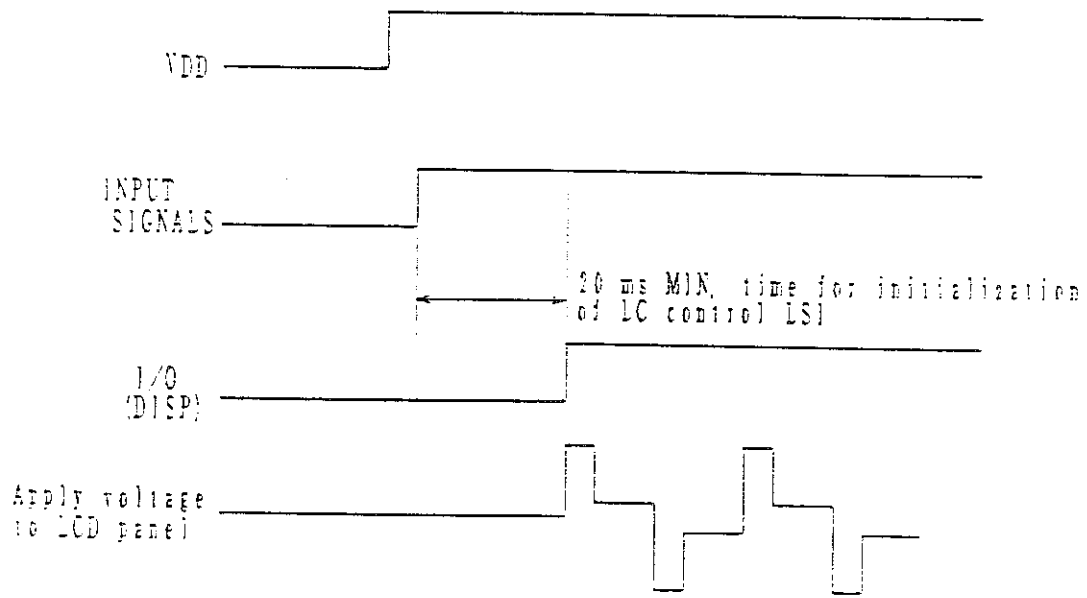

Fig. 5 Timing chart without DC apply to the LCD panel (A)
Connect I/O port of micro-computer in the main system with DISP and control it. Until initialization of LC control LSI is finished after power ON, signal(M) isn't generated, so that DC voltage is applied to the LCD panel. (Refer to Fig.3.) During this time, switch I/O port(DISP) to 'L' and force apply voltage to the LCD panel into 0V. After initialization of LC control LSI, switch I/O port(DISP) to 'H', so that the LCD panel is returned to the normal driving voltage. (Refer to Fig.5.)